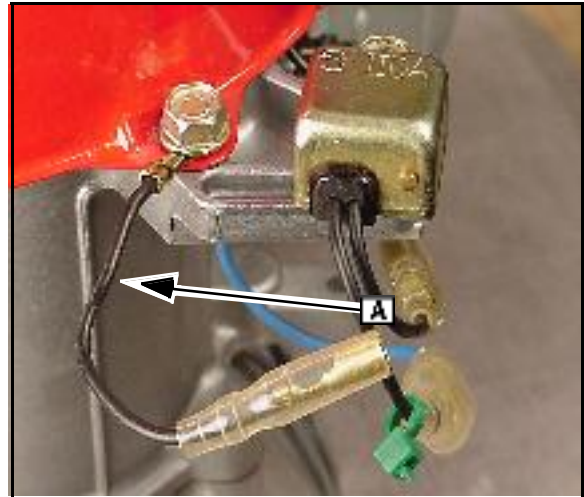

Fig. 10
11. Install grounding lead ([A] Fig. 10) as shown.